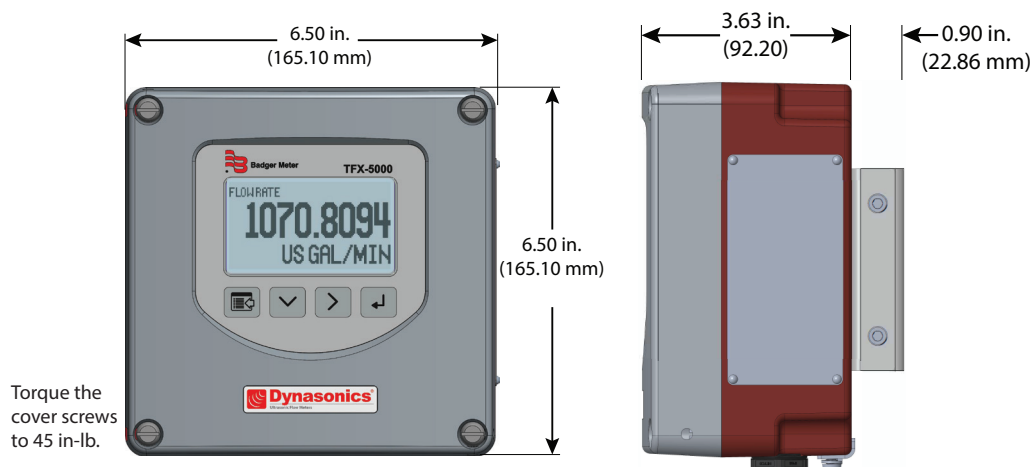

Figure 2: Remote mount enclosure dimensions
- See *Figure 2 on page 6* for enclosure and mounting dimension details. Allow enough room for door swing, maintenance and conduit entrances.